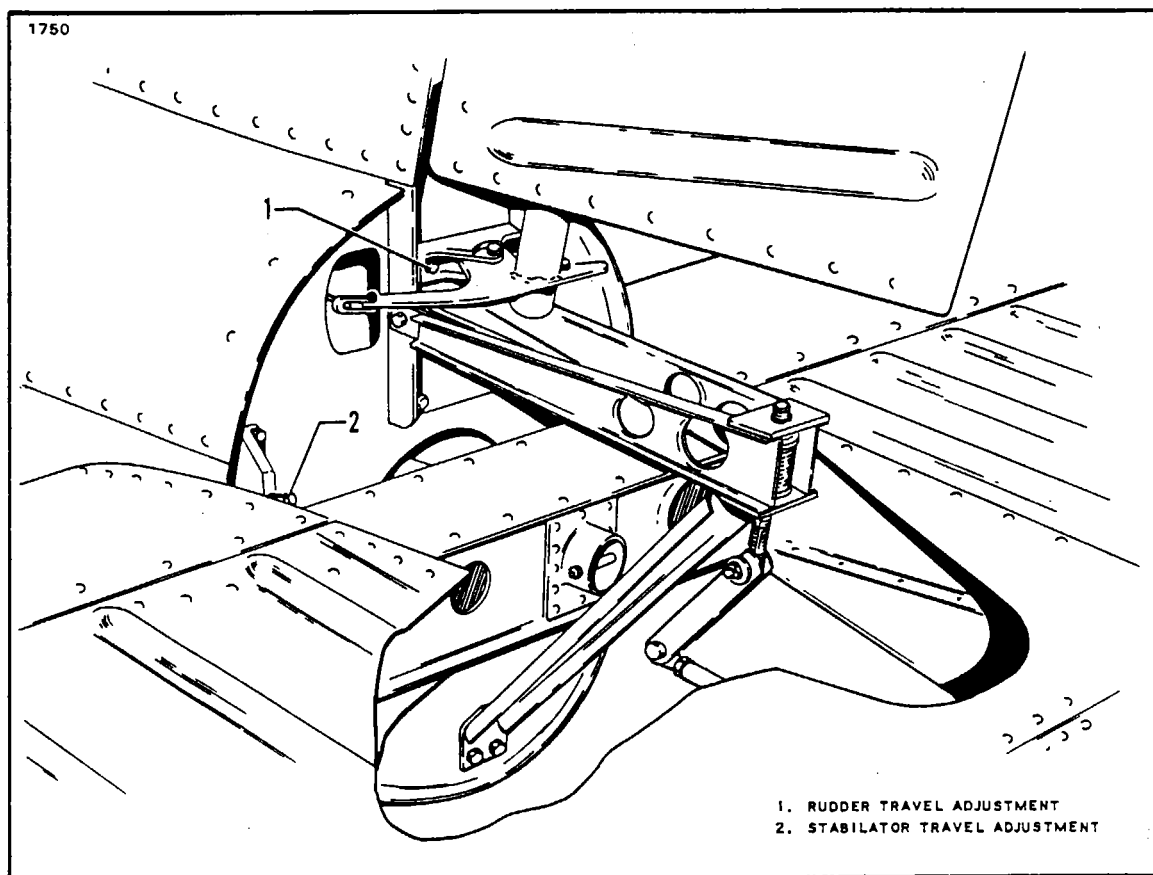

Figure 5-13. Rudder and Stabilator Travel Adjustments
4. Should the rudder travel be incorrect showing a gap between the tool and any part of the control surfaces, the tail cone should be removed and the stops reset to obtain correct rudder travel. (Refer to Figure 5-13.)